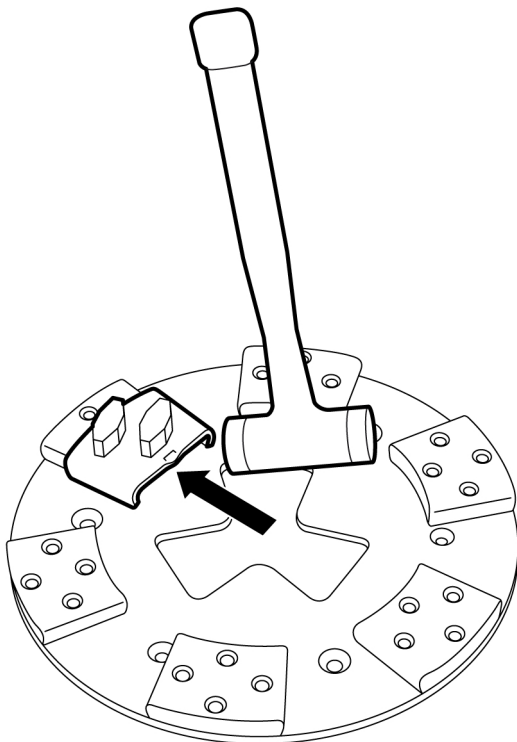

Figure 4-2. Locking grinding tools
2. Lock the grinding tool into the tool holder by giving it a few light taps with a rubber hammer - see Figure 4-2, page 20.
3. Lock the grinding tool into the tool holder by giving it a few light taps with a rubber hammer - see Figure 4-2, page 20.